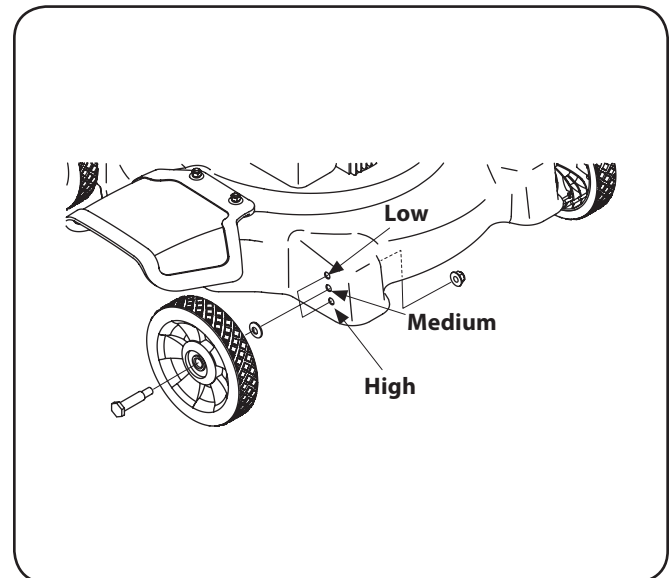

Figure 3-11
1. Remove the carriage bolts and related hardware from the wheels. See Fig. 3-11.